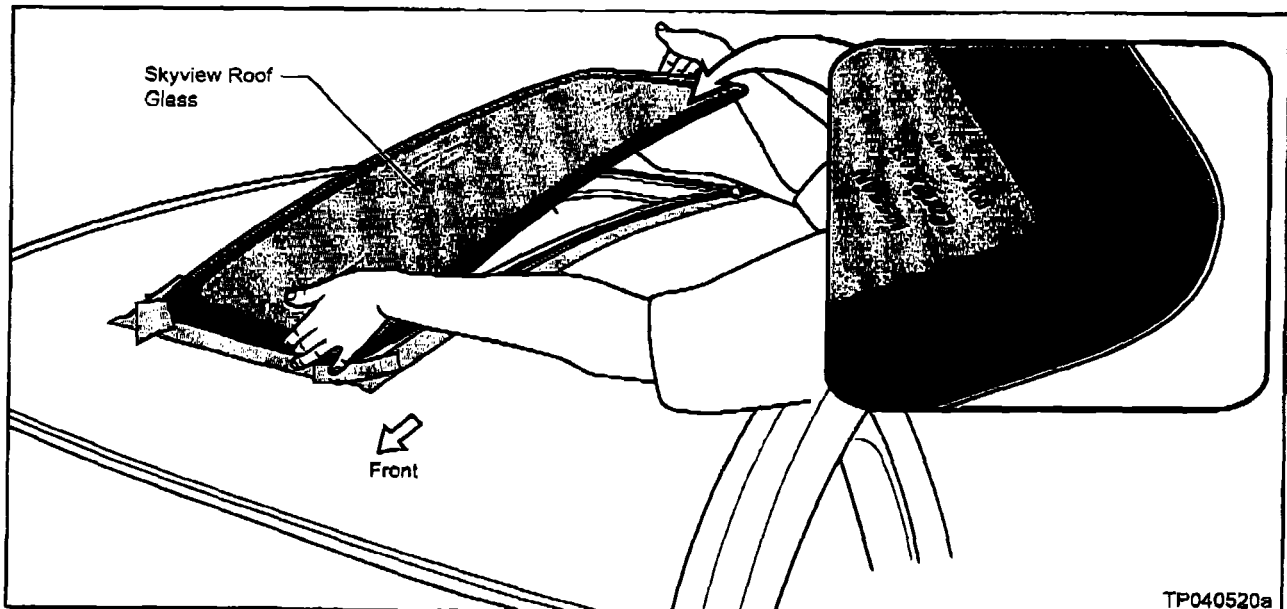

Figure 11
- Make sure the "NISSAN" logo is positioned towards the driver's side rear of the vehicle, as shown in Figure 11.
- The "NISSAN" logo on the glass goes towards the driver's side rear of the vehicle (see Figure 11).